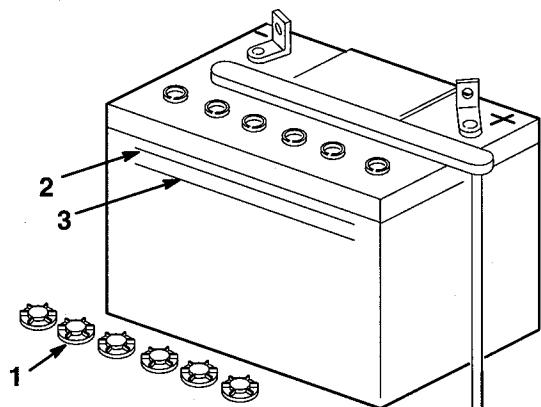

Figure 19
2. Look at the side of the battery. The electrolyte must be up to the "UPPER" line (Fig. 19). Do not allow the electrolyte to get below the "LOWER" line (Fig. 19).
2. Unscrew the filler caps (Fig. 19).
3. Slowly pour distilled water into each battery cell until the level is up to the "UPPER" line (Fig. 19) on the battery case..